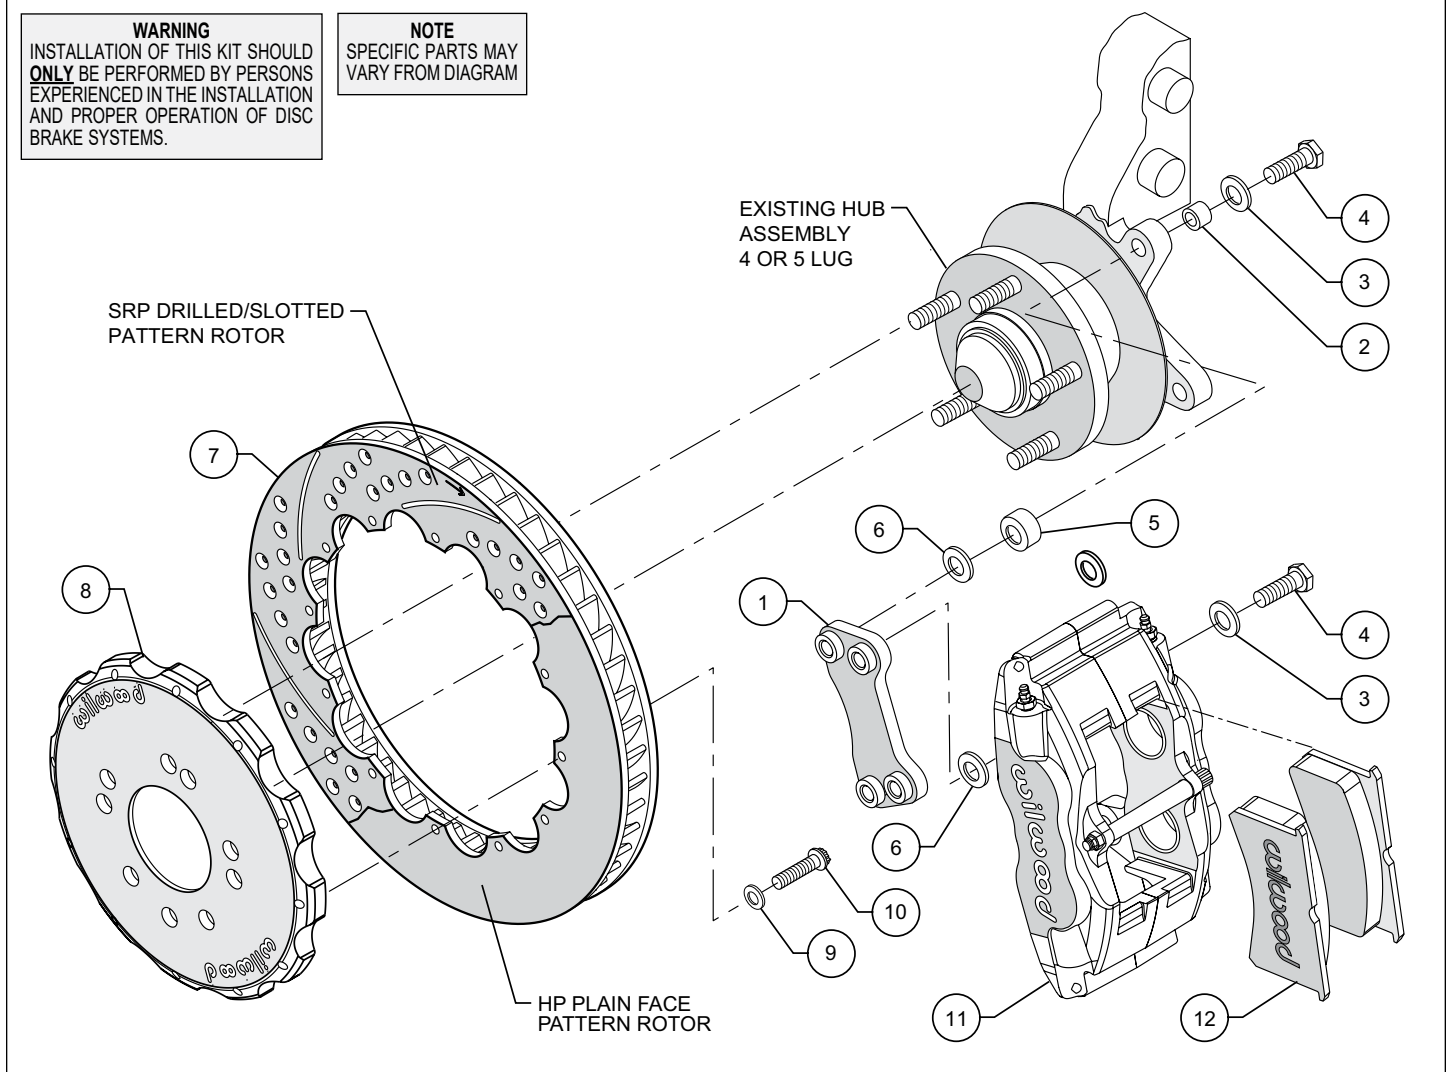

Figure 1. Typical Installation Configuration
NOTE: Numbers in parenthesis refer to the parts list and Figure 1 on the preceding pages.
•Insert one sleeve (2) each into the holes on the top and bottom of the spindle “ears” where the OEM caliper bracket was removed. Apply red *Loctite*® 271 to the caliper mounting bracket bolt threads (4) before installation of the caliper mounting bracket (1). Install the bracket with the flanged heads of the clinch nuts facing outboard, as shown in Figure 1. Slide bolt (4) through washer (3) and into the previously installed sleeve (2) from the backside of the hub. On the front side of the hub place spacer (5) and one shim (6) between hub and bracket. Finger tighten. Repeat for the lower mounting holes. Torque bolts to 60 ft-lb.
•**NOTE:** Please reference the caution statement at the beginning of the assembly instructions. Mount the caliper (11) onto the caliper mounting bracket (1) using bolts (4) and washers (3), as shown in Figure 1. View the rotor (7) through the top of the caliper (11). The rotor should be aligned in the center of the caliper. If not, loosen the bolts and adjust the caliper by using 0.016 inch thick shims (6). Finger tighten and recheck alignment. Always use the same amount of shims on both the top and bottom caliper mounting bolts. Loosen the bolts and apply red *Loctite*® 271 to bolt threads, and torque to 75 ft-lb.
•Remove the caliper bridge bolt and install the disc brake pads (12) then reinstall the caliper bridge bolt.